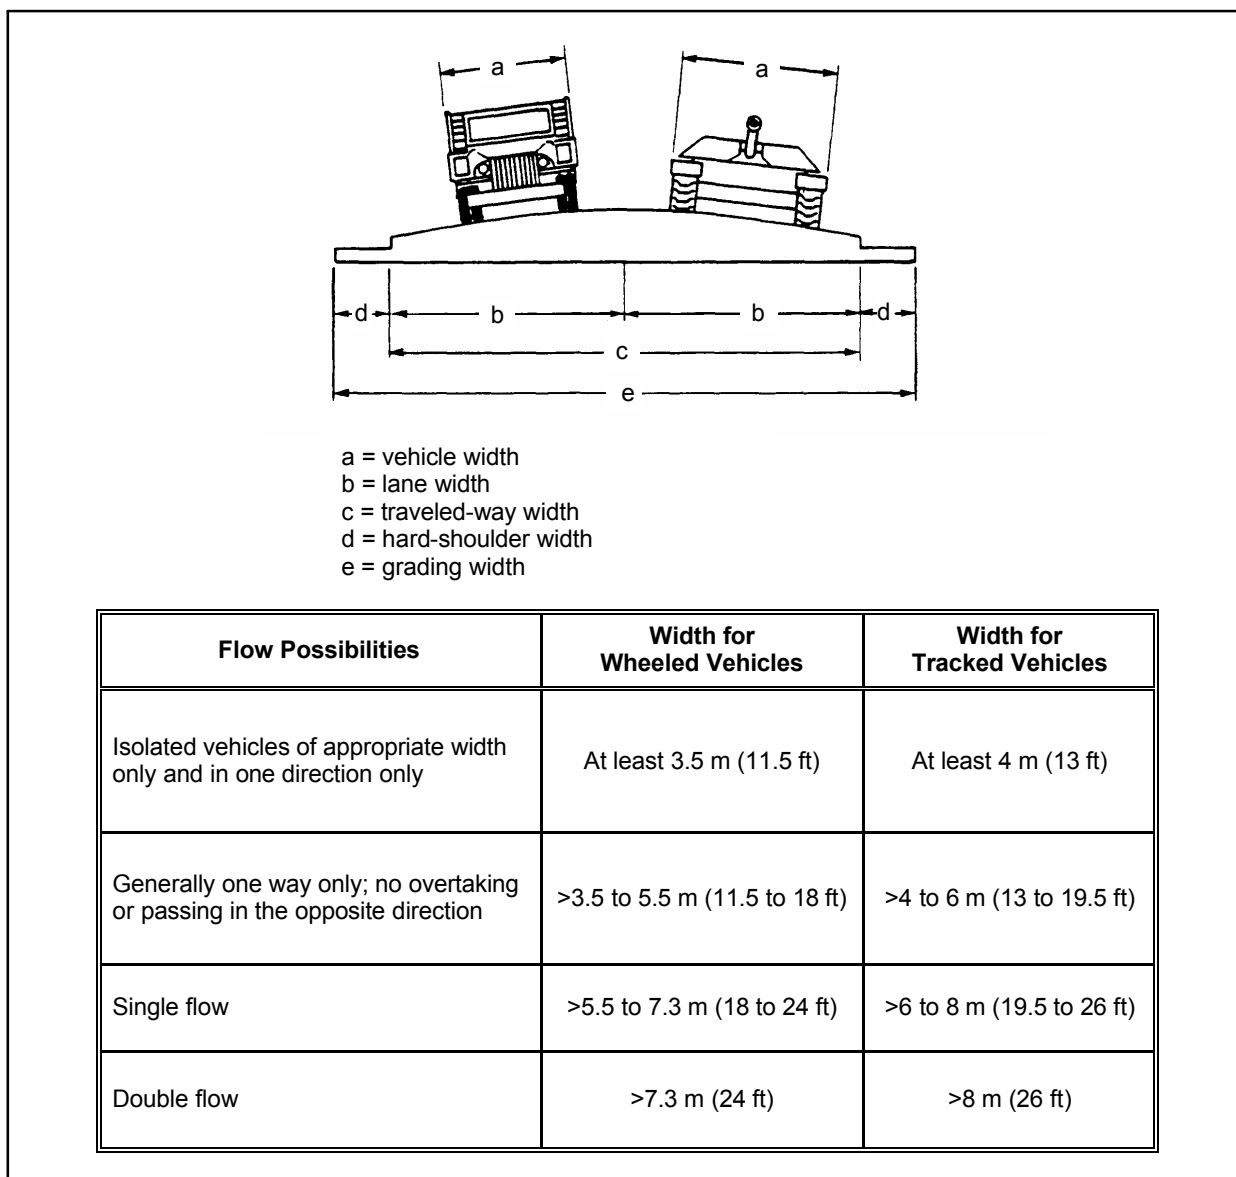

Figure 2-2. Route Widths
(1) Route widths are illustrated in *Figure 2-2*. The width of the traveled way determines the number of lanes of a given route. The number of lanes determines the traffic flow.
(2) A route is single flow if it allows a column of vehicles to proceed and individual oncoming or overtaking vehicles to pass at predetermined points. A route is double flow if it allows two columns of vehicles to proceed simultaneously, either in the same or opposite direction.
(3) A width obstruction does not exist for military traffic unless the traveled-way width is less than the minimums outlined in *Figure 2-2*. To obtain the minimum required traveled way, compare the type of traffic and the required traffic flow.
(4) In the absence of other instructions from the commander requesting the reconnaissance, routes are reconnoitered and reported based on the minimum traveled-way width for double-flow, tracked vehicles.
(5) Any time the traveled-way width is less than minimum for traffic type and flow, the traveled way presents an obstruction to traffic. This will be reported as an obstruction.